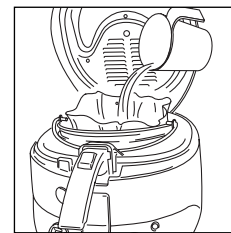

fig. 11
9. Next pour the oil or fat very slowly into the deep fryer so that it does not spill out of the filter (fig. 11).